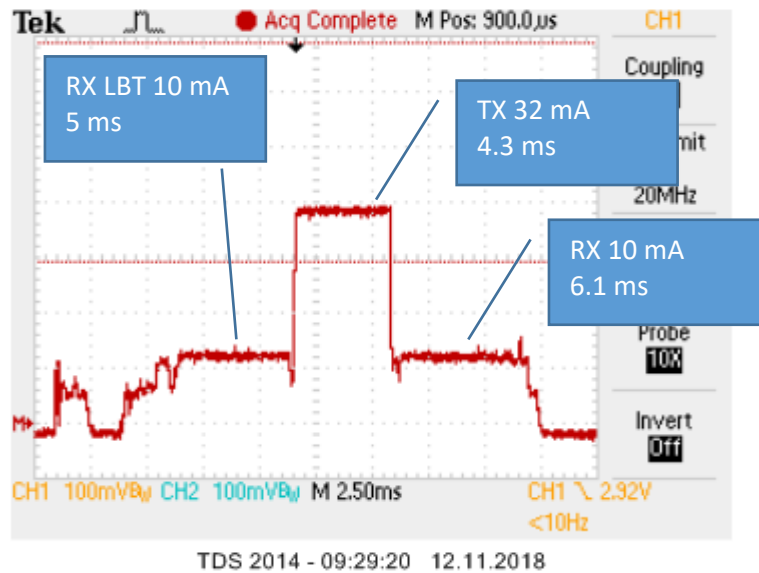

Figure 6. Current consumption for one data polling
- Current during an RF transmission with acknowledge. Below in Figure 6 and Figure 7 the current consumption profiles for two different RF packets are shown at 50 kb/s data rate.